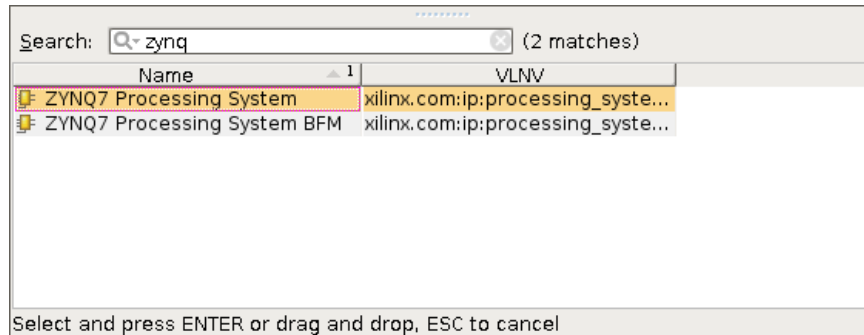

Figure 3: Zynq Processing System
2. Click on 'Create Block Design' and name the design 'multiply'. In the diagram, add 'ZYNQ7 Processing System' IP as in Figure 3.
4. In the 'Re-customize IP' window, click on 'Peripheral I/O Pins'. To build the hardware depicted in Figure3. Enable 'UART 1' by clicking on the check box. Double check and make sure that only the 'UART 1' is selected.